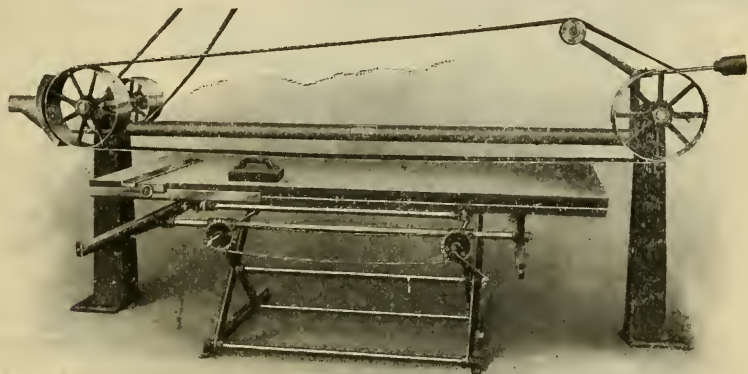

Fig. 51—BELT SANDER
52. Belt Sander-- A typical style of belt sander is shown in Fig. 51.